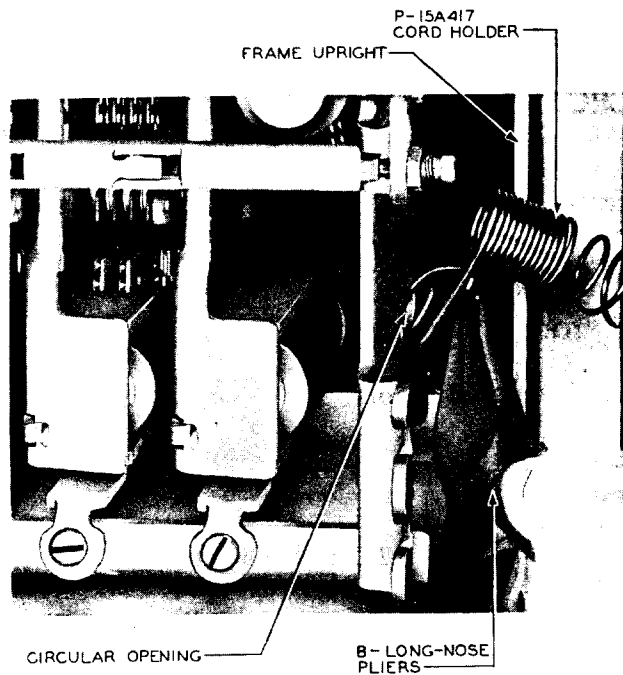
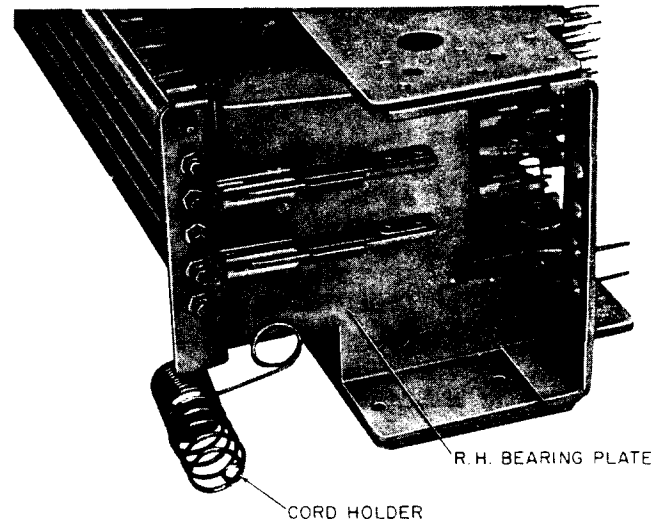

Fig. 1—Mounting Cord Holder on 300-Series Crossbar Switches
Fig. 3—Mounting Cord Holder on CA-CF Series Crossbar Switches
secured to the switch frame by the offset part of the holder as shown in Fig. 1 and Fig. 3.
- (b) Insert the holder between the switch and the frame upright as shown in Fig. 1.
Slide the end of the cord holder through the opening in the right hand bearing plate of the switch and turn the cord holder until it locks into place as shown in Fig. 3.♦